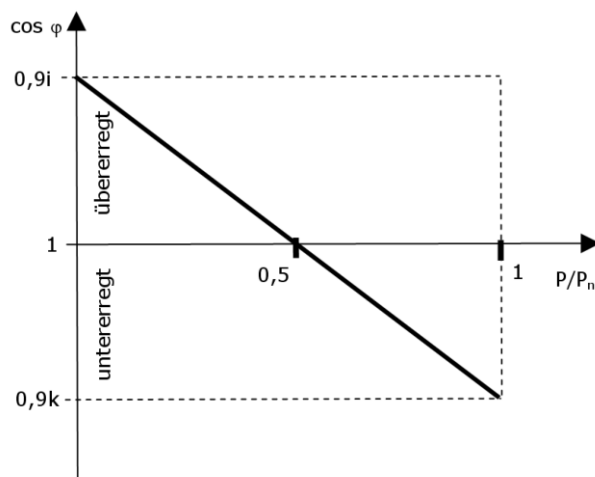

Figure 3: Power Factor droop characteristic.
- adaptive power factor between 0.9 lagging (untererregt) and 0.9 leading (übererregt) based on Figure 3 below.